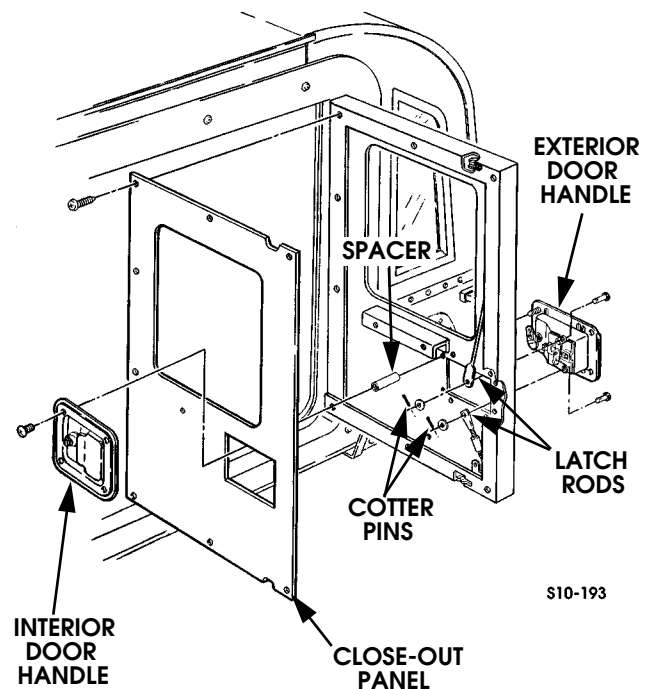

Figure 10-155: Door Handle Replacement
2. Remove four screws and interior door handle from door (Figure 10-155).
1. Secure exterior door handle to door with four spacers (Figure 10-155).